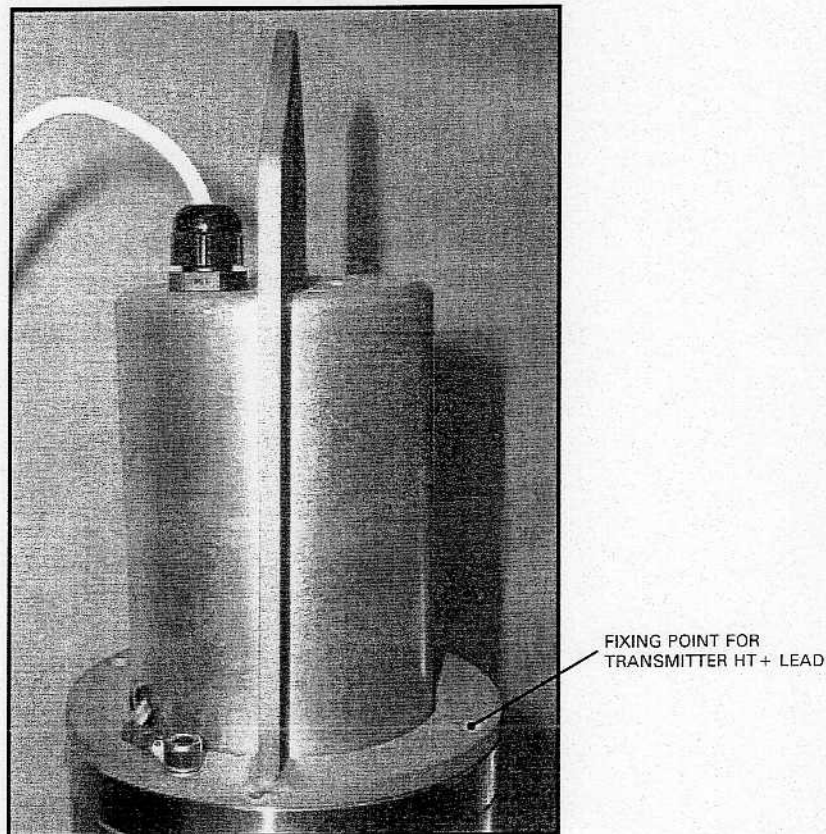

Fig. 11
- e) Connect the transmitter HT+ lead to the collector of the tube using one of the ion pump cover screws (see Fig. 11).